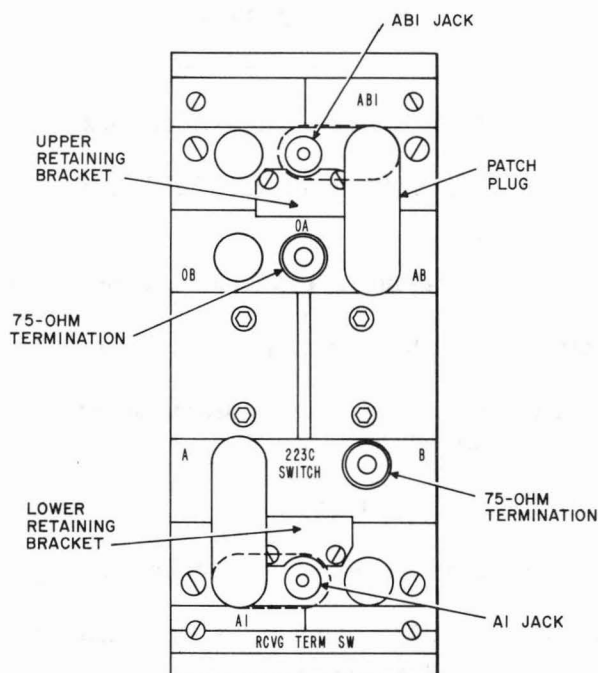

Fig. 10—Receiving Line Terminating Switch
- 12 At the receive end (control connecting bay), insert a patch cord from the multiple A1 jack to the multiple AB1 jack of the defective switch (Fig. 10).